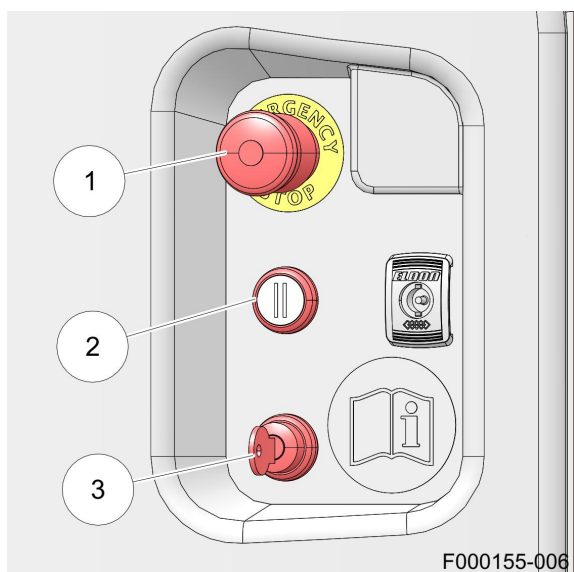

Figure 45. Safety key
5. Switch off the Mixing and Feeding Robot with the key (see figure 45 on page 5-12).
1. Turn the safety key (3) (see figure 45 on page 5-12) in the **OFF** position, remove it and keep the key with you.
1. Push the pause button (2) (see figure 45 on page 5-12) to make sure the Mixing and Feeding Robot does not drive.
1. Insert the safety key (3) (see figure 45 on page 5-12) and turn it to the **ON** position.